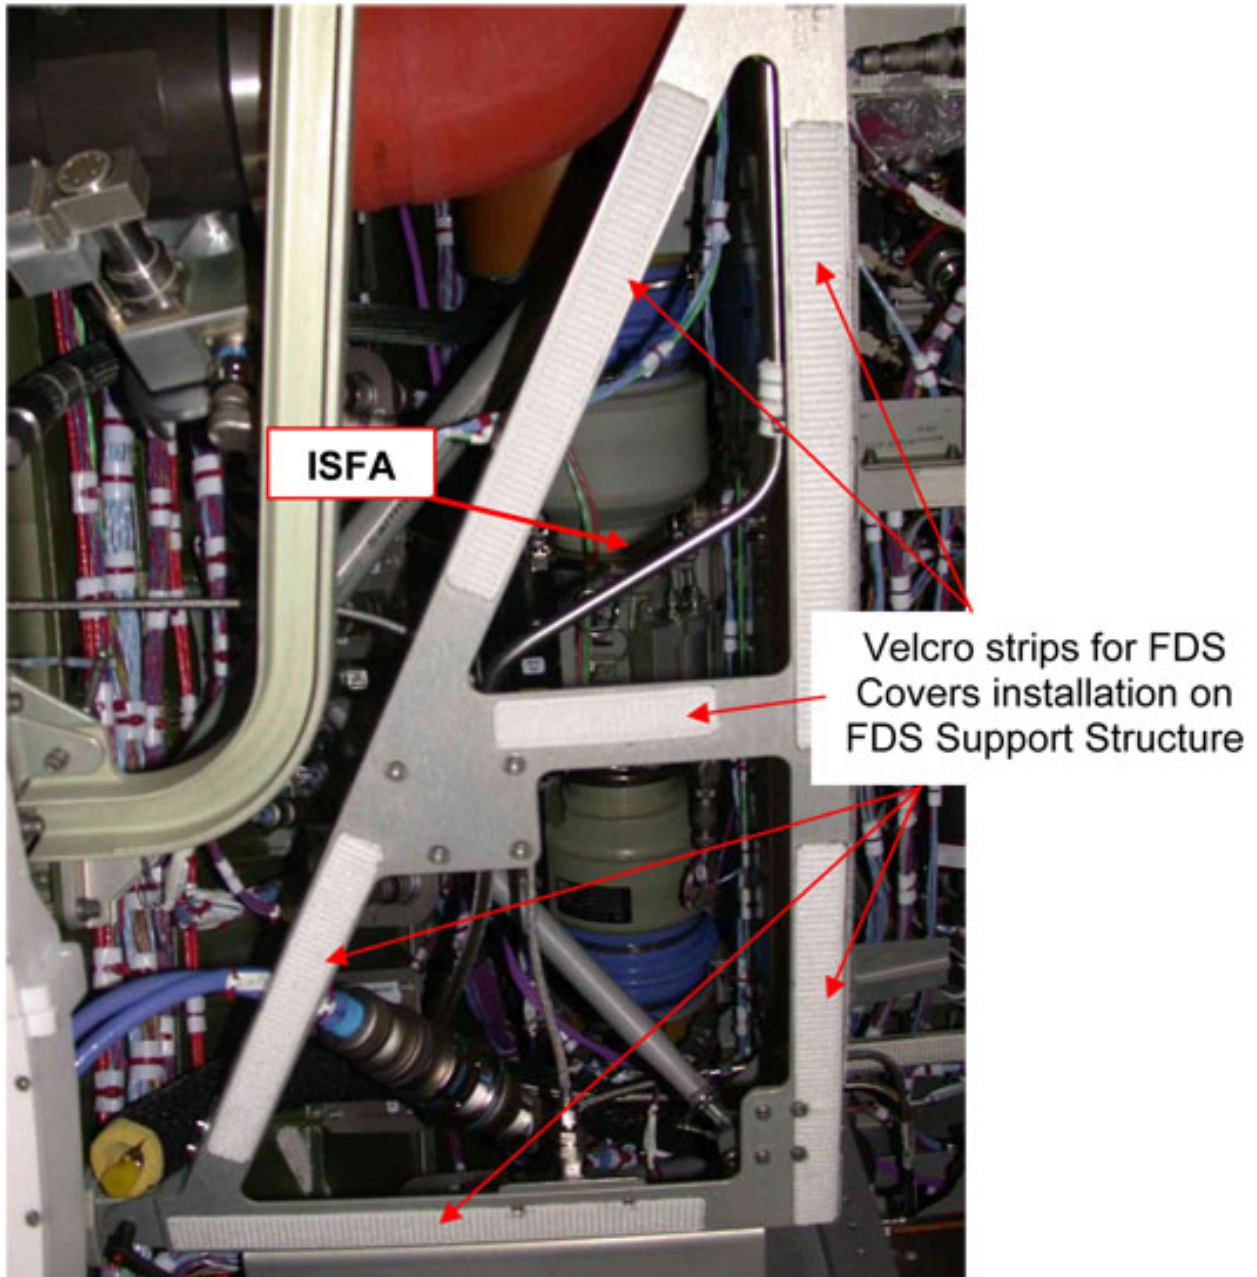

Figure 3: ISFA installation location on COL1PFC
1. The FDS Covers are installed on the support structure by means of "structure to blanket" and "blanket to blanket" Velcro strips. Refer to Figure 3.